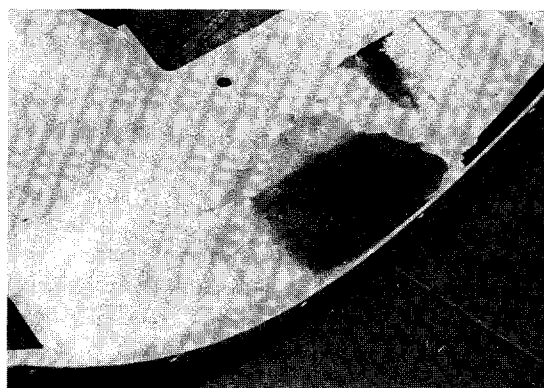

Figure 14-14
6. Saturate the fiberglass mat with resin/hardener mixture (**Figure 14-14**).